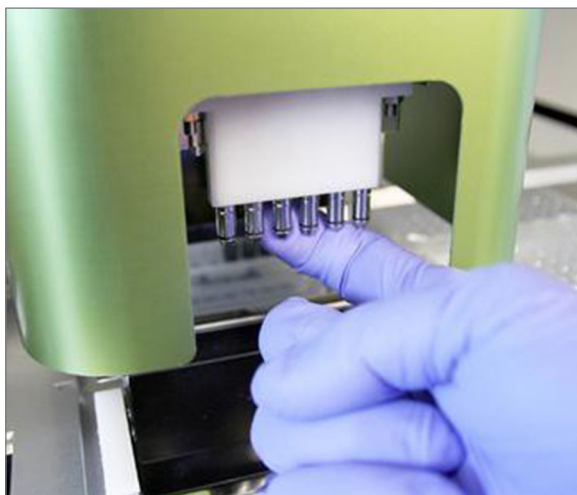

FIGURE 7.10: Use a finger to apply a small amount of NanoString silicone grease to the O-rings
3. To lubricate the O-rings, take a small amount of silicone grease and rub a finger round the O-ring using a gloved hand as shown in **FIGURE 7.10**.